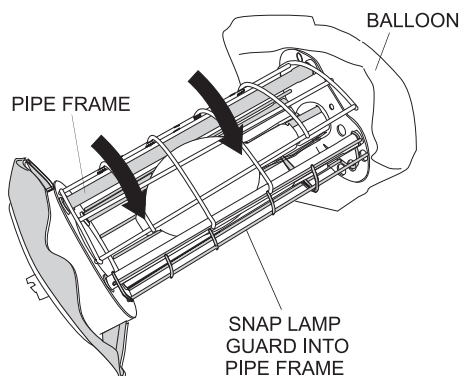

Figure 27. Installing the Lamp Guard
1. Reinstall the lamp guard (Figure 27). Be careful not to install the lamp guard in the wrong direction.